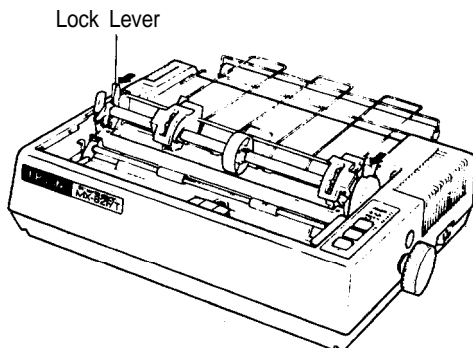

Fig. 28 Dismounting of Tractor Unit
- STEP 1. Release the lock levers of the tractor unit by pulling in the direction as shown in Fig. 28.